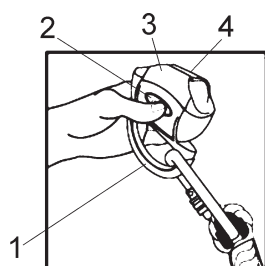
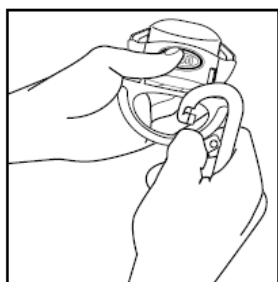

Fig. 3.1 - Components of the standard shuttle
Fig. 3.2
Fig. 3.1 shows the main components of the standard shuttle. To fix the shuttle, hook the carabiner of the coupling element into the anchoring eye (1) of the shuttle (fig. 3.2).